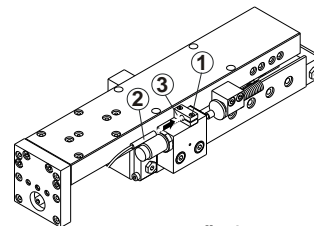

fig 4
Adjustment of limit switch (ES), fig 4
1. Loosen clamping screw (1).
2. Slide limit switch (2) from rear into stop Clamp block (3) up as far as stop.
3. Retighten clamping screw (1).
4. Connect limit switch (2) to electricity supply.